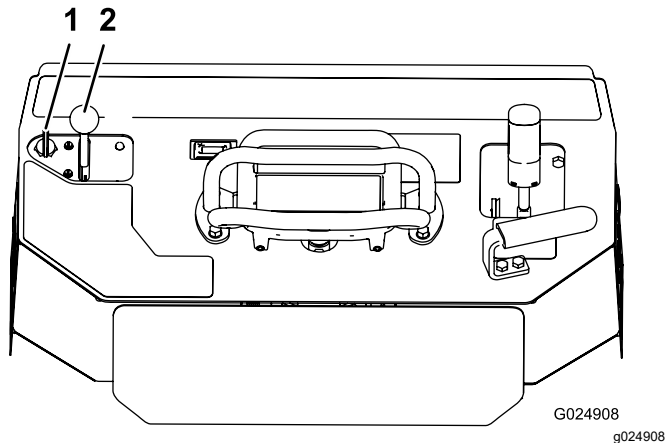

Figure 18
1. Move the throttle lever midway between the SLOW and FAST positions (Figure 18).
2. Turn the key to the ON position (Figure 18). When the engine starts, release the key.
3. Move the throttle lever to the desired setting (Figure 18).